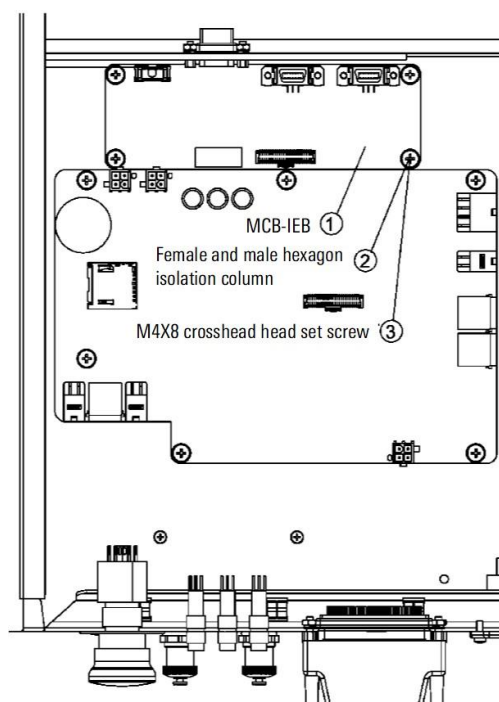

Figure 2-1 Diagram of installing MCB-IEB
Step2. Place ① MCB-IEB in the position shown in Figure 2-1, screw the four ② female and male hexagon isolation columns into the four holes next to the control box MCB and secure with the four ③ M4X8 crosshead head set screws, refer to Figure 2-1.